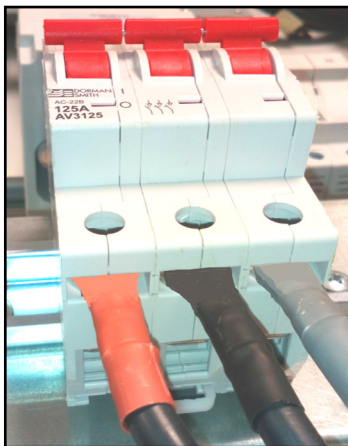

Fig. 1 Meter supply cables from incoming switch top terminals
- 5) Fit the meter supply cables from the top, front terminals of the incoming side of the main switch (fig.1) to the fuse terminal block.